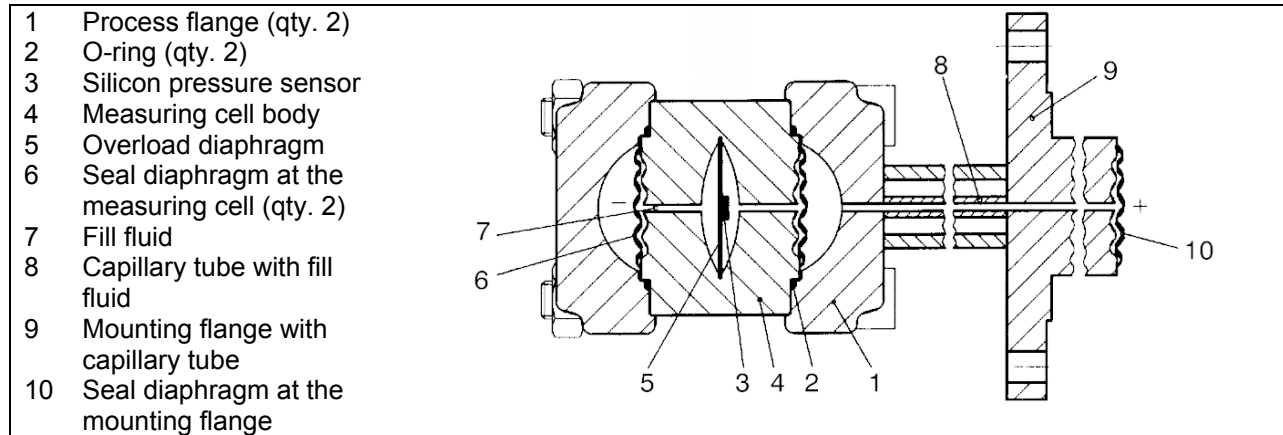

FIGURE 8-4 Flanged Level Measuring Cell
Input pressure (hydrostatic pressure) acts on the high pressure (+) side of the measuring cell through the seal diaphragm (10) at the mounting flange, the fluid filled capillary tube (8), the fluid filled cavity in the process flange, a seal diaphragm, and the fill fluid in the measuring cell body (4). See Figure 8-4. A differential pressure is applied to the low pressure (-) side of the measuring cell via the seal diaphragm (6) and fill fluid (7) to the silicon pressure sensor (3).